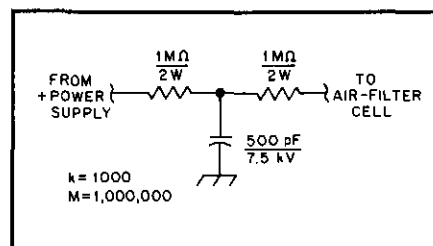

Fig 5—John Morris cleaned up air-cleaner interference with this simple T-section filter. See text.
□ My Heathkit® GDS-1297 electrostatic air cleaner worked fine as assembled, with the exception that it caused a loud frying noise in nearby MF and HF receivers, and snow on a TV in the same room. The unit's power supply—approximately 6 kV—is clean. Only when the air-filter cell was connected to the supply did the noise appear. My cure? A simple T-section filter consisting of two 1-M Ω resistors and a 500-pF, 7.5-kV capacitor to ground between the power supply and the air-filter cell (see Fig 5). This filter reduced the noise to an acceptable level.—*John L. Morris, W6YAR, 14427 Allingham Ave, Norwalk, CA 90650*